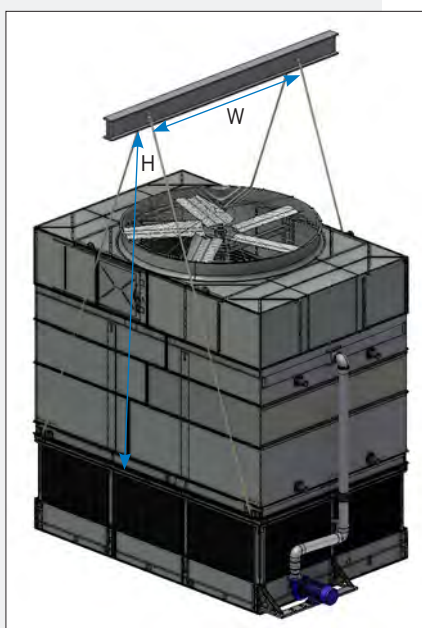
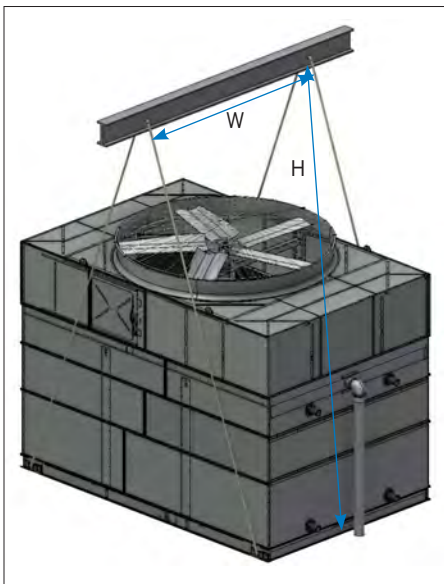

Figure 1. Single-Piece Lift
Figure 2. Upper Section Two-Piece Lift (Casing and Mechanical)
All standard single cell PFi and PCC products (including models with the optional heavy gauge coil) are designed to be lifted in one assembled piece as shown in **Figure 1**. A two-piece lift is shown in **Figures 2 and 3**. All sections, with the exception of the lower section, require the use of a spreader bar. The distance between the spreader bar lifting points must be equivalent to the width between the unit lifting ears.
1. **Figures 2 and 3** show the proper rigging of sections for units that ship in two pieces.